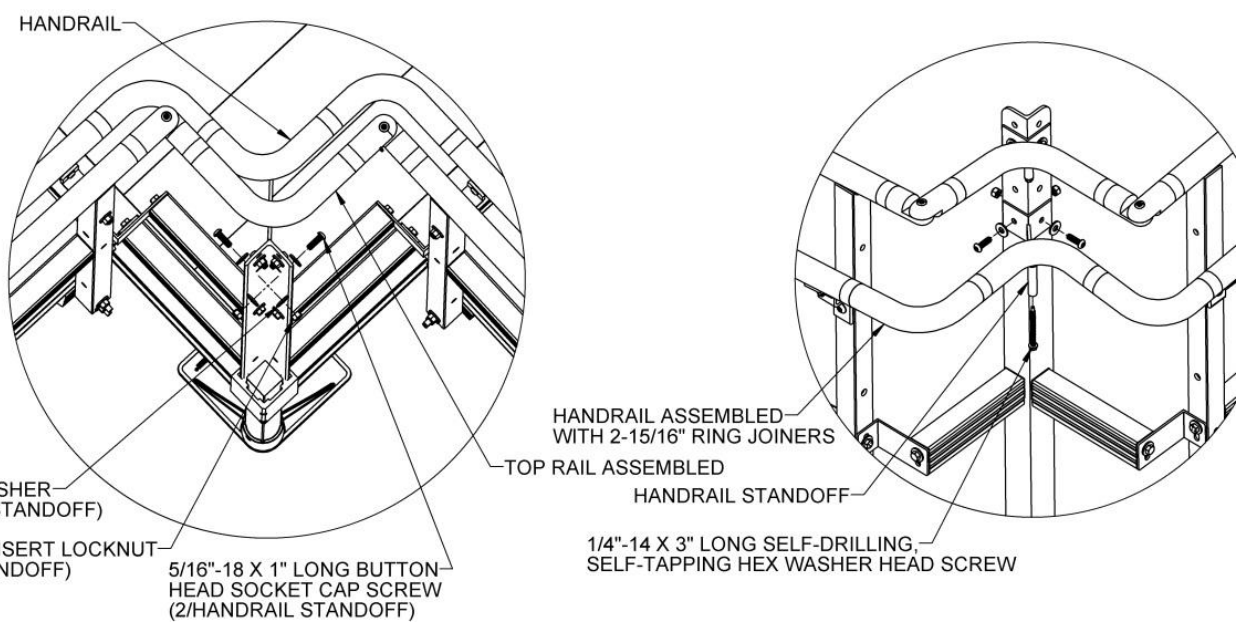

FIG. 5.43
- 5.9.17. Assemble the three 1-1/2" diameter, 90° elbows using 2-15/16" ring joiners. Remove the elbows from the Ramp Handrail if needed but be sure to keep track of the cut ends so they can be reinstalled in the same orientation with respect to the handrails and each other. Orient all joiner set screws toward the underside and tighten all joiner set screws securely (FIG. 5.43).
- 5.9.18. Adjust the Handrail Standoff to contact the underside of the middle elbow then use the holes in the standoff as a template to drill 5/16" or 11/32" holes through the 2" x 2" angle posts (FIG. 5.43).
- 5.9.19. Attach the Handrail Standoff to the 2" X 2" angle posts using 5/16"-18 x 1" long button head socket cap screws, 5/16"-18 nylon insert locknuts and 5/16" flat washers (FIG. 5.43).
- 5.9.20. Drive a 1/4"-14 x 3" self-drilling, self-tapping screw up through the underside of the Handrail Standoff into the middle 1-1/2" diameter, 90° elbow. Put pressure on the elbow until the threads engage and pull the components together (FIG. 5.43).